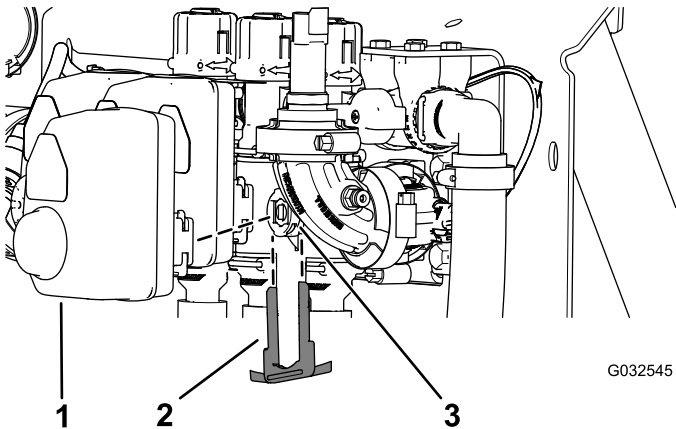

Figure 103
- Remove the retainer that secures the actuator to the manifold valve for the section valve or agitation valve (Figure 103).